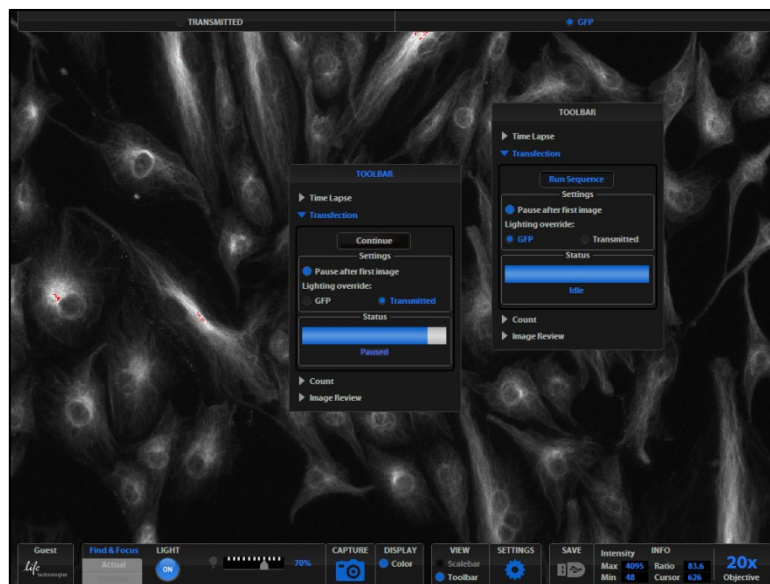

Figure 10 Transfection Tool
2. Open the Toolbar and expand the Transfection tool (Figure 10).